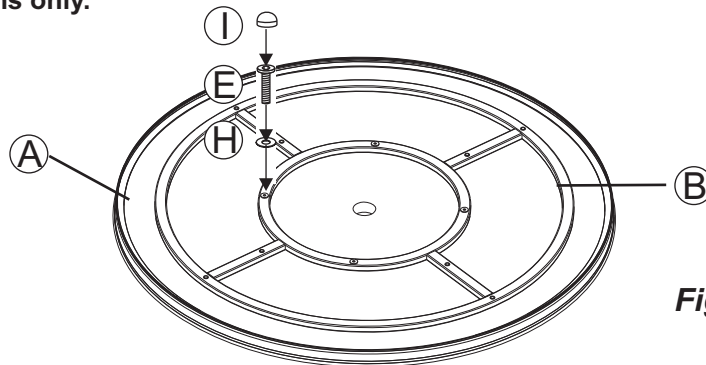
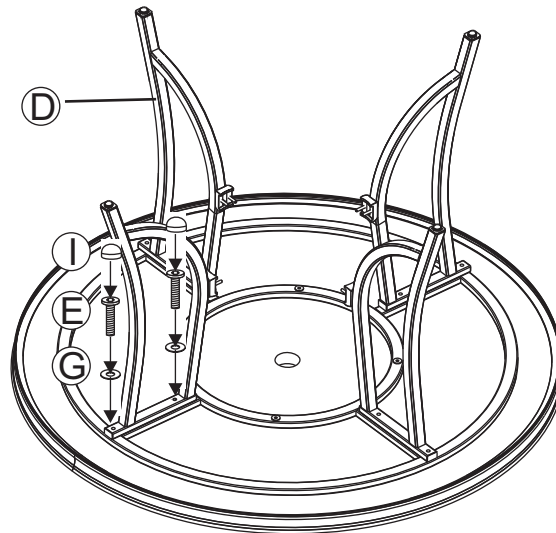

Figure 1
Figure 2
- 1 Place the table top upside down on a flat, non-abrasive surface. Attach the top connector bracket to the table top by using four bolts and $\text{Ø}20 \times \text{Ø}6.5 \times 1.0$ mm washers as shown in the **Figure 1**. Guide the bolts through the holes in the top connector bracket, into the pre-drilled holes in the table top. **Hand tighten 2-3 turns only.**
- 2 Attach a table leg (D) to the top connector bracket by using two bolts and $\text{Ø}6.5 \times 1.0$ mm washers as shown in **Figure 2**. **Hand tighten 2-3 turns only.** Repeat for the other legs.
- 3 Attach a table leg to the leg connector bracket by carefully guiding the bolts already in place on the table legs (each leg has two bolts) through the holes in the leg connector bracket. Add a $\text{Ø}6.5 \times 1.0$ mm washer and a nut to the end of each bolt as shown in the **Figure 2**. **Hand tighten 2-3 turns only.** Repeat on the other three legs.
Step 3: Important: We recommend 2 people work together to assemble the chair. Note the arrow labels on the "U" bar and the rocker assembly. Also note the horseshoe shape of the rocker plate. Point the open end of the horseshoe away from you. The arrows on the rocker assembly should be pointing towards you. Set the chair frame on the rocker assembly with front of the seat facing you and the arrows on the "U" bar pointing towards you as shown in *Figure 1*. This is very important for a safe, balanced rocking motion. **If chair frame has been properly positioned on the rocker assembly, all arrows on the "U" bar and rocker assembly will be pointing in the same direction.**
Step 4: Critical Step: The "U" metal plates must be installed in the proper location. Read this step and carefully examine. Insert the "U" metal plate, so that the "U" bar and rocker plate are between both sides of the "U" metal plate. Make sure that the holes in the "U" metal plate are completely aligned with the holes in the "U" bar as shown in *Figure 1*. Guide the bolts through the holes on the top side of the "U" metal plate, through the holes in the "U" bar portion of the chair, through the holes in the rocker plate and then, most importantly, through the holes in the bottom side of the "U" metal plate. It is very important that the holes in the bottom portion of the "U" metal plate be placed directly beneath the holes in the rocker plate. Add a spring washer and a nut to each bolt as shown in *Figure 2*. **Hand tighten nuts 3-4 revolutions only.** Repeat the same procedure on the other side.